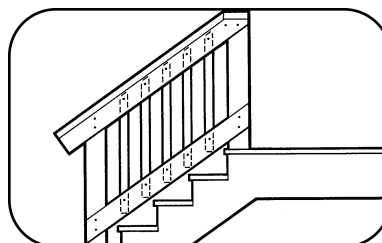

Fig. 43
- An additional top and bottom Side Rail can be installed on the inside (deck side) of the Railing for additional support (Fig. 43).